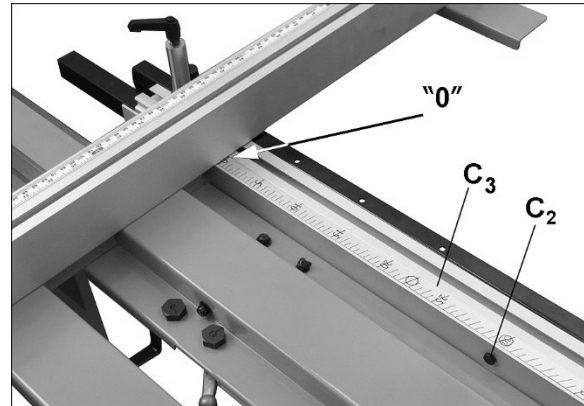

Figure 8-6
6. Loosen screw (C₂, Figure 8-6) on angle rail and slide angle scale (C₃) until zero is aligned with vertical face of fence.